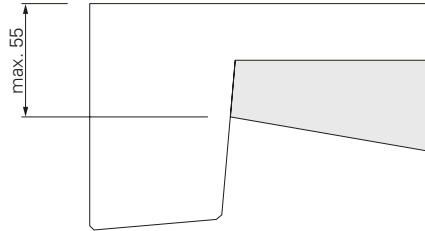

Fig. A3.01
- The distance from the upper edge of the parapet to the lower edge of the bridge cantilever is max. 55 cm in accordance with the type calculations for both assembly types. (Fig. A3.01)